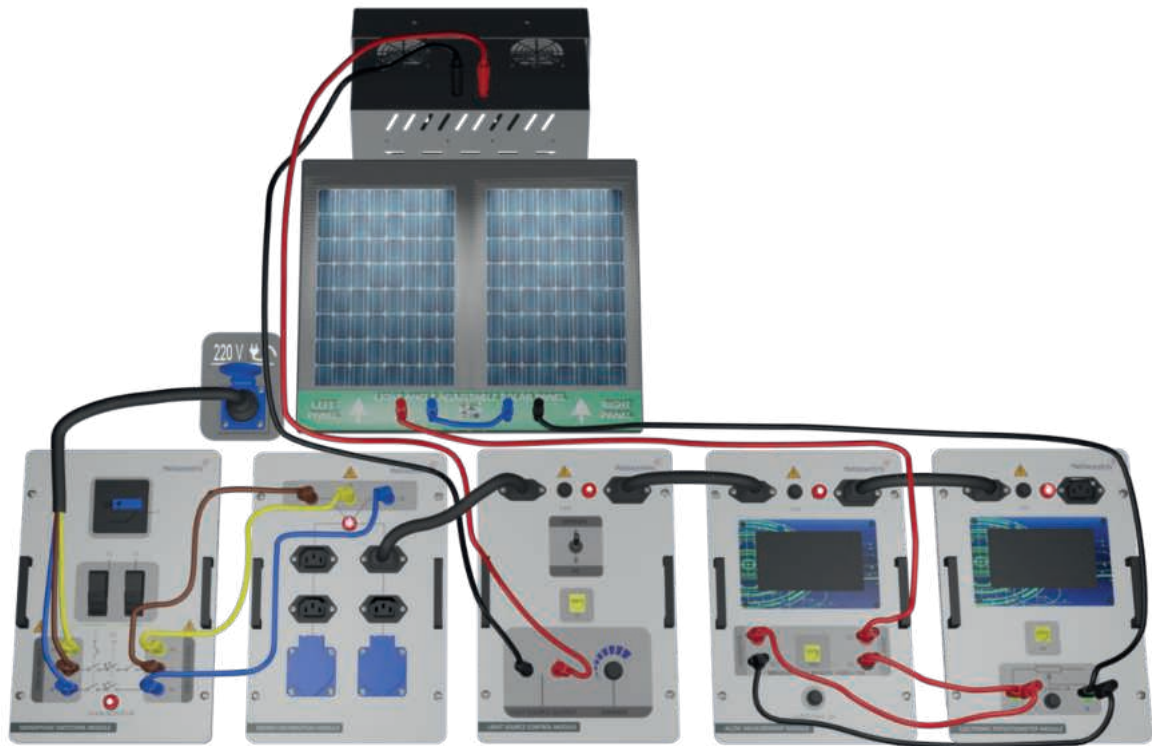

Figure-47. Installation Image of Examination of Shadow Effect in Photovoltaic Panel
1. Set up the connection as specified in Figure-47. Ensure a constant level of light in the laboratory by creating an average scenario. Any alterations to the positions of the lamps or curtains will have an impact on the experimental outcomes.
3. By setting the potentiometer module to 1000Ω , connect to the series connected panel output terminals as shown in Figure-47.